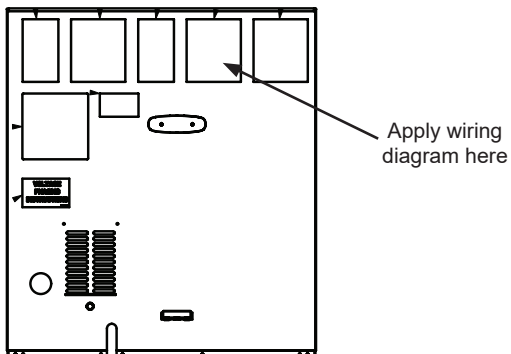

Figure 11 - Label Installation
7. Apply wiring diagram to the control panel. See Fig. 11.